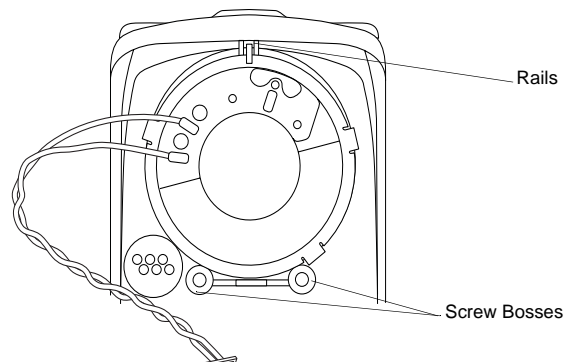

Figure 2-9. Speaker Assembly
1. Align the speaker as shown in Figure 2-9.